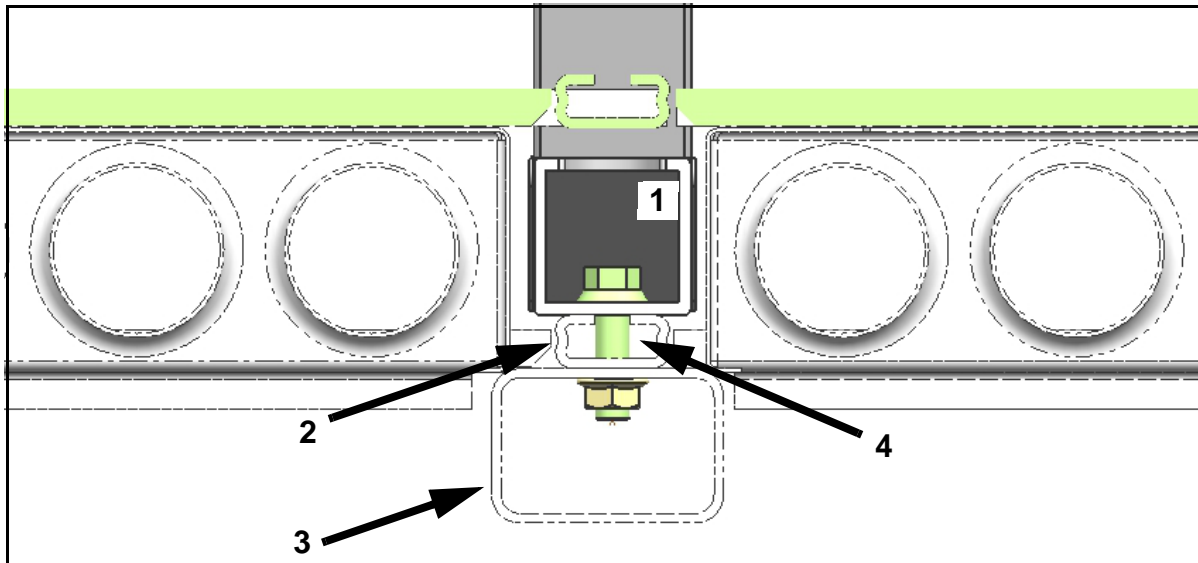

Figure 7.
16. Locate the capscrew inside the tubing. Position the nut, p/n 19-03-0582, on the capscrew (refer to Figure 7). Torque capscrew to 76-80 ft-lbs.
Item	Figure 7 Description